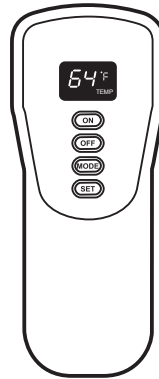

Figure 26 - Remote Control
4. Press the ON button on the remote control to light the burner (see Figure 26). You will hear a series of beeps. This will also "learn", or program, the remote and the receiver.
The factory setting for temperature is °F. To change this setting to °C, press the ON key and the OFF key on the remote control at the same time (see Figure 26, page 20). This will change from °F to °C. Follow this same procedure to change from °C back to °F.